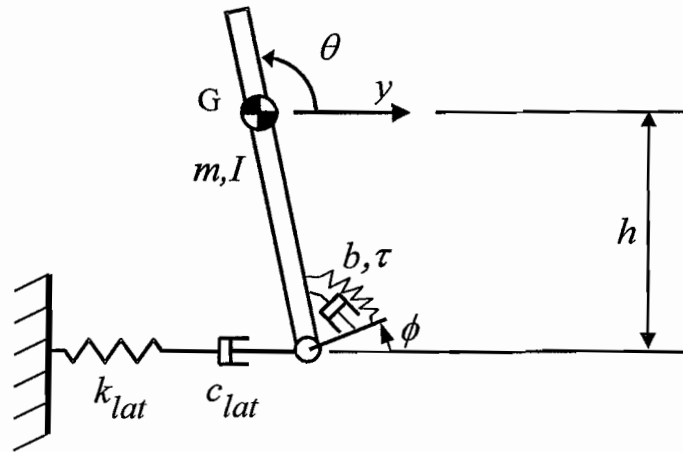
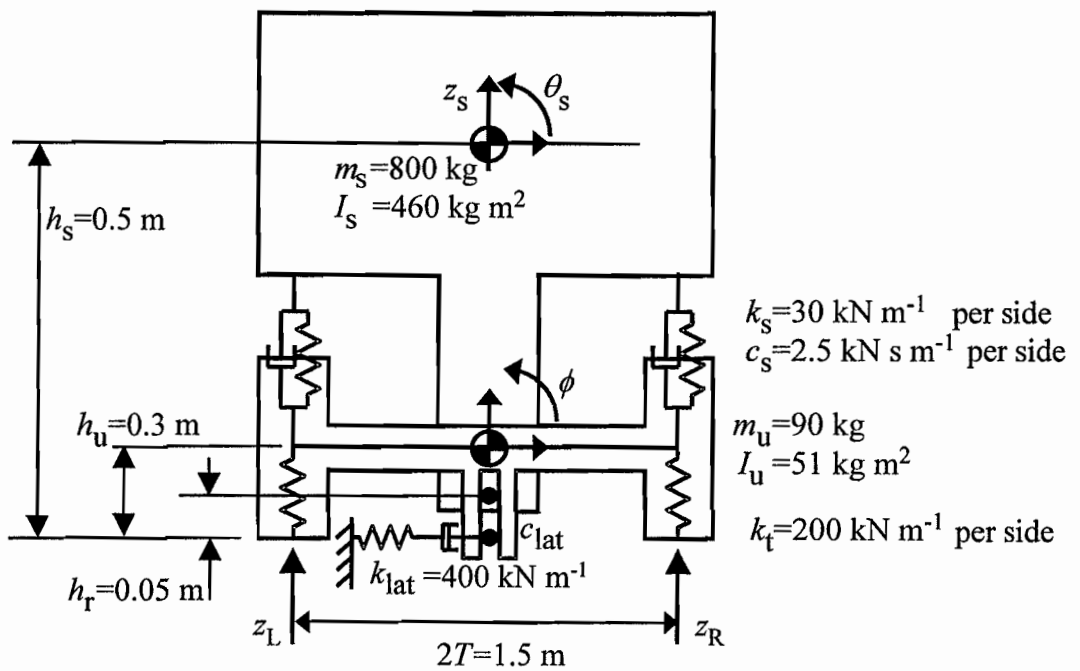

Fig. 3a
Fig. 3b
4 Figure 3a shows a simplified version of the six degrees-of-freedom (6 DOF) model of lateral-roll vibration shown in Fig. 3b. The simpler model has mass m and roll inertia I about mass centre G. The height of the centre of mass is h . The mass has lateral and roll degrees of freedom y and θ . The suspension roll stiffness and roll damping are τ and b . The lateral tyre behaviour is represented by a series spring and damper, k_{lat} and c_{lat} . Roll displacement input from the road is ϕ .
- (b) For the case of very low vehicle speed, show that one of the equations of motion of the simple vehicle model in Fig. 3a is given by:
- (c) Show that the undamped natural frequencies of vibration of the simple vehicle model in Fig. 3a are given by the solutions to: